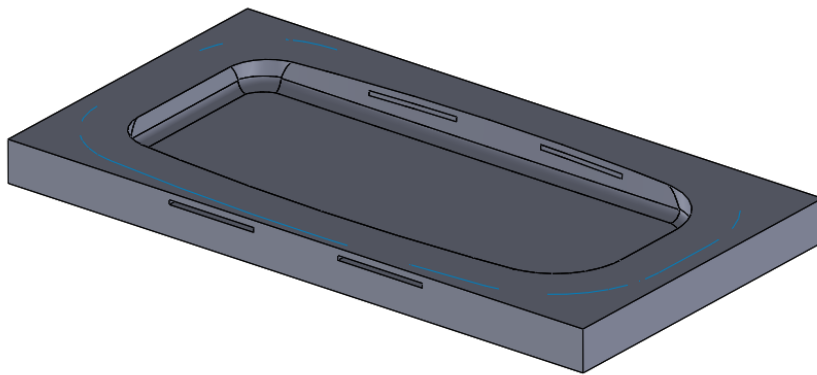

Figure 21-62 Cavity after creating the slots
- Create the slots in the cavity for the insertion of inserts, refer to Figure 21-62.
The final cavity after creating the slots is displayed in Figure 21-62.